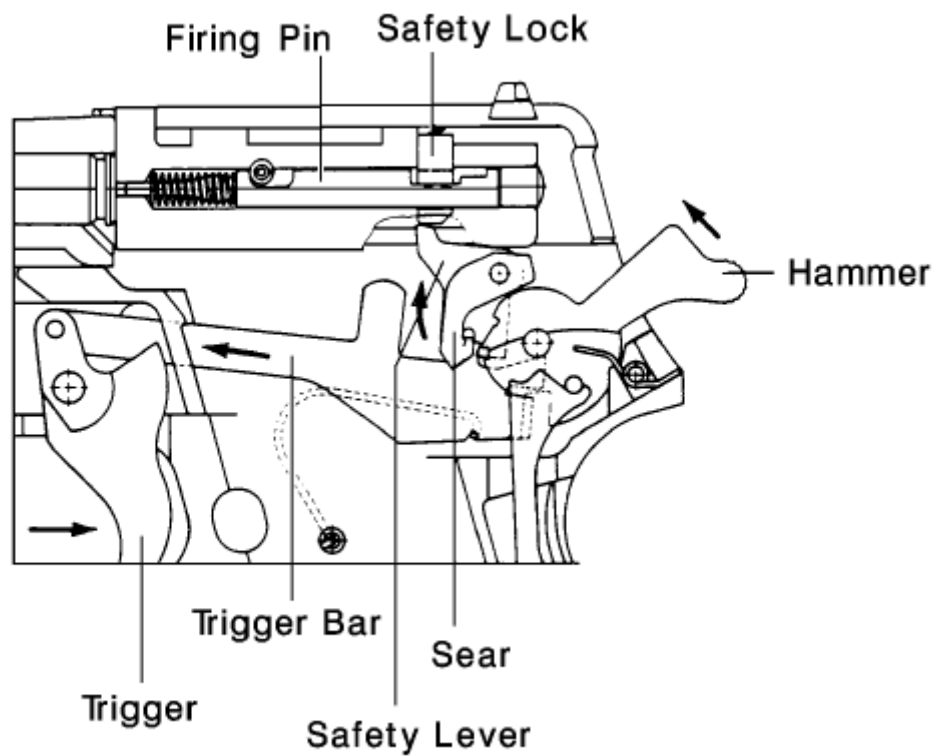

Figure 6 - Function of the Trigger Assembly
#### 2-4. **CYCLE OF OPERATION** (See Figures 6, 7, 8)
- a. Firing. (See Figure 6) By squeezing the trigger the trigger bar is drawn forward and cocks the hammer. The trigger bar also operates the safety lever to lift the safety lock. The safety lever draws the sear out of register with the hammer while the safety lock releases the firing pin. Continued movement of the trigger causes the trigger bar to release the hammer which strikes the firing pin and detonates the cartridge primer.